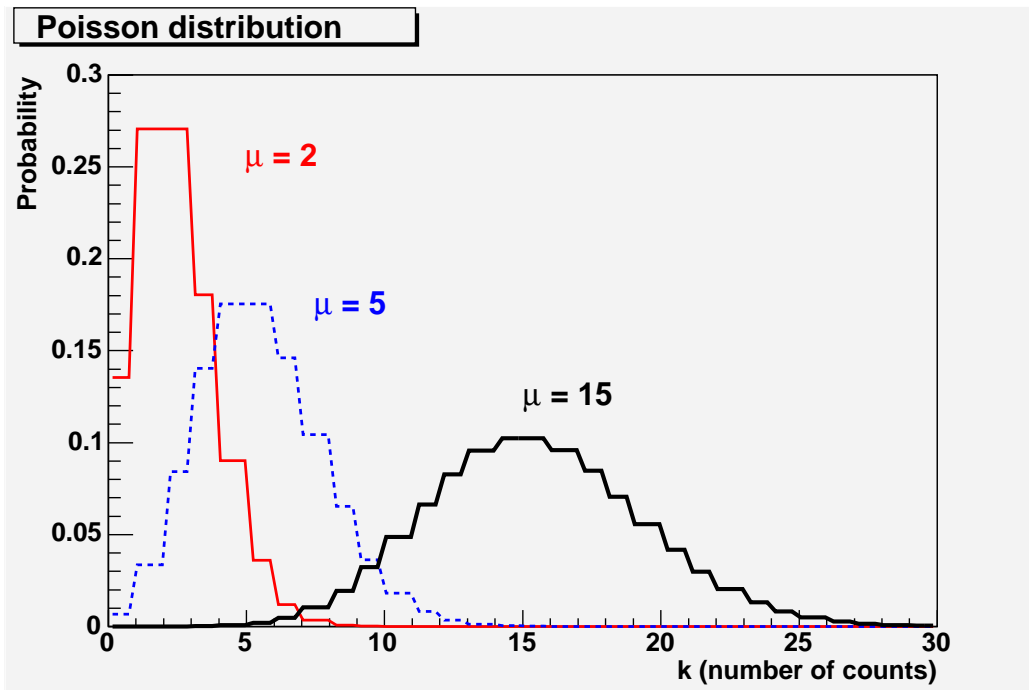

Figure 4: Poisson Distribution for different values of the mean  $\mu$ .
3. For small  $\mu$ , the Poisson distribution has a characteristic tail toward large values of  $k$  (the measured number of counts in a fixed time interval). This is illustrated in the figure 4, where the probability to get  $k$  counts,  $P(k)$ , is plotted for several distributions with different mean values  $\mu = 2, 5, 15$ .